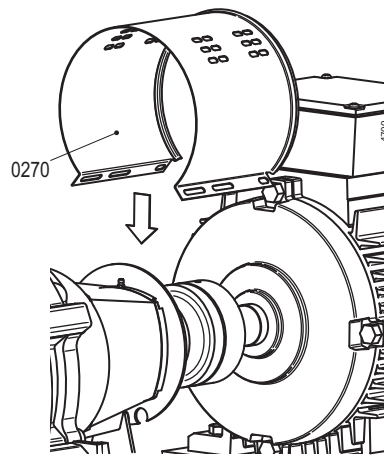

Figure 18: Fitting the jacket at motor side.
- 2 Remove both jackets (0270). See figure 18.